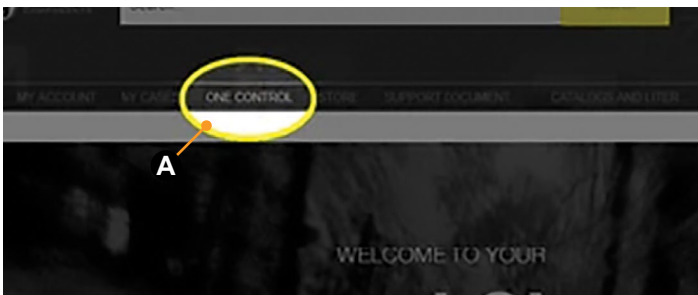

Fig.68
1. Login to the LCI Customer Community web portal (Fig.68) using a standard web browser.